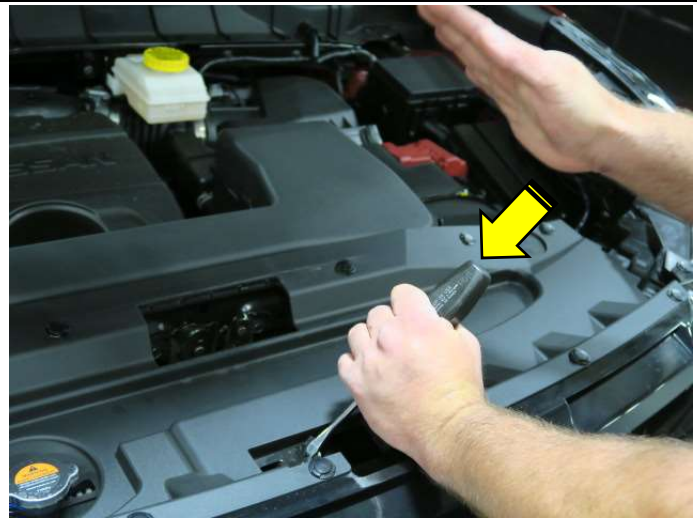

Figure 3
- Using the palm of hand, with moderate pressure, tap on the end of the screwdriver handle 3-5 times. (Figure 3)